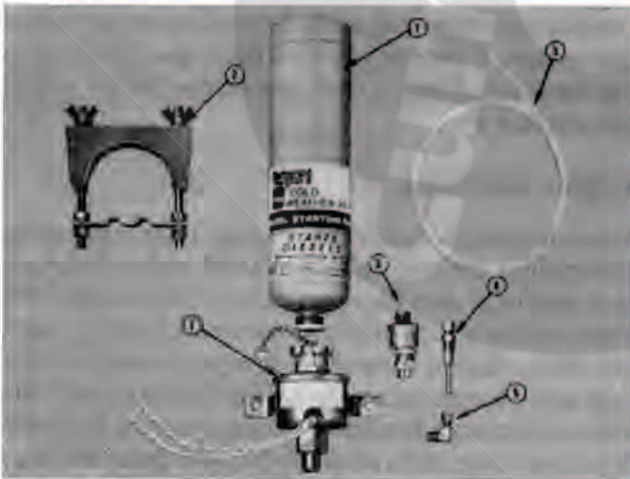

Fig. 1- 8, (OM1008L), Electrically operated valve
The electrically operated valve, Fig. 1- 8 , includes the valve body (7), 90 degree elbow (5), clamp (2), push button switch (6), and nylon tube (3). The thermostat is mounted on the engine exhaust manifold and cuts out the valve by sensing manifold heat when the engine is running. See parts catalog for fuel cylinder (1) and fuel atomizer fittings (4). These fittings must be ordered separately, as required.